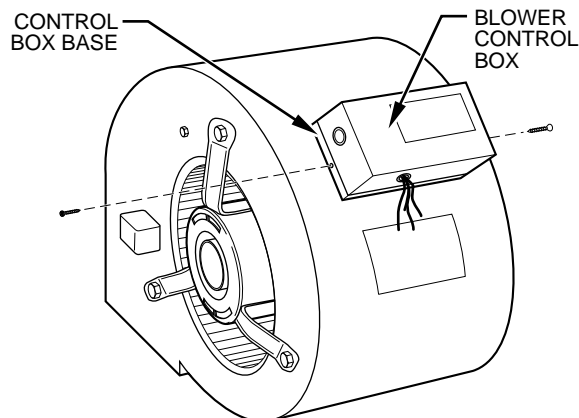

Fig. 2—Attaching Control Box to Control Box Base
2. Insert control box onto control box base aligning 2 holes in sides of control box and base. (See Fig. 2.)
3. Secure control box to base with 2 screws removed from control box. (See Fig. 2.)